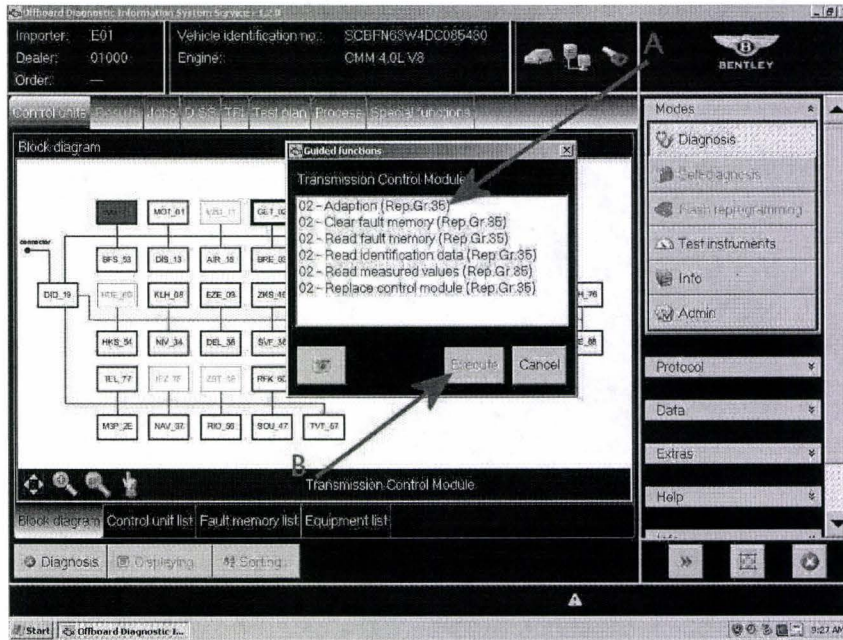

Figure 12
- Referring to Figure 12 Select – (Point A) 02 Adaption (Rep.Gr 35)